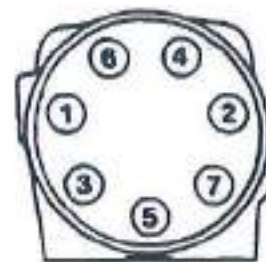

Figure 26
27. Install 7 dry cap screws in end cap. Pretighten screws to 150 inch pounds, then torque screws to 275 inch pounds in the sequence shown in Fig. 26.